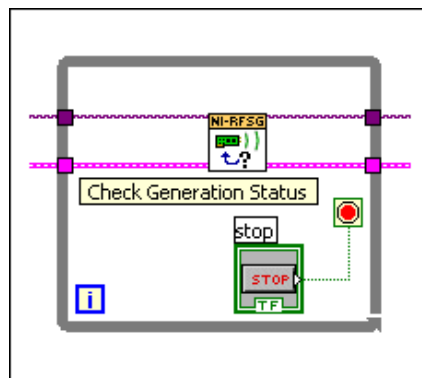

Figure 7. While Loop with Stop Button
5. Right-click the **Loop Condition** terminal and select **Create Control** from the shortcut menu to create a **STOP** button on the VI front panel. The resulting portion of the block diagram is shown in Figure 7.